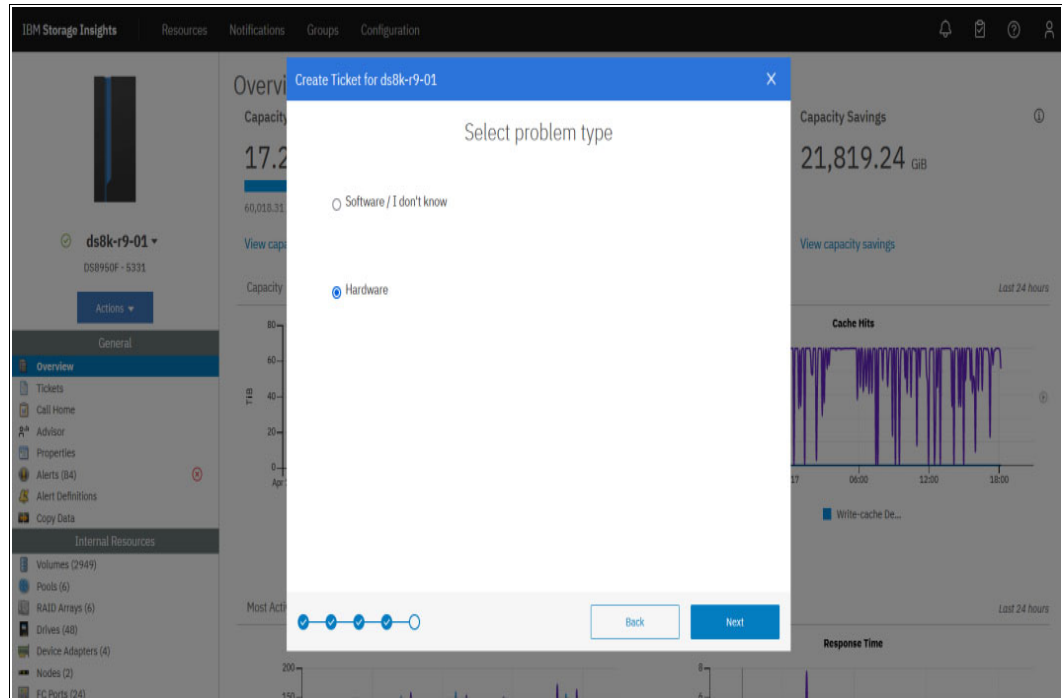

Figure 12-25 IBM Storage Insights: Select problem type
5. In the window that is shown in, Figure 12-25, select either **Software/I don't know** or **Hardware**, depending on whether you have a hardware problem or a software problem.